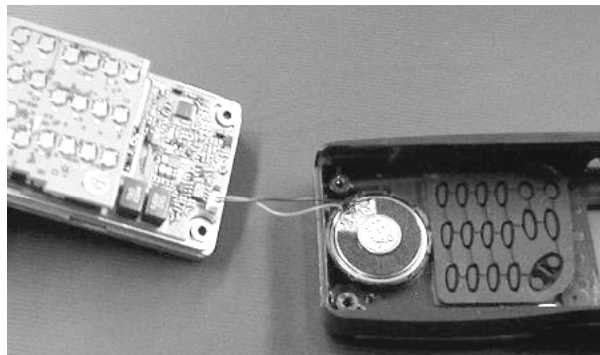

Figure 2-8
1. Connect the RF board to the internal speaker on front cover with the speaker connector (see “Figure 2-8”).